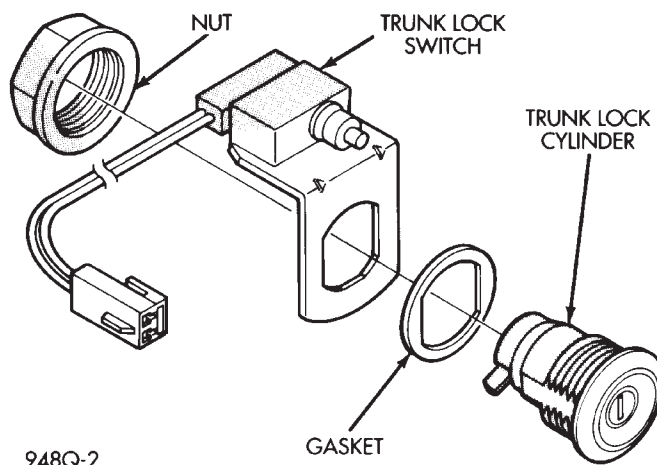
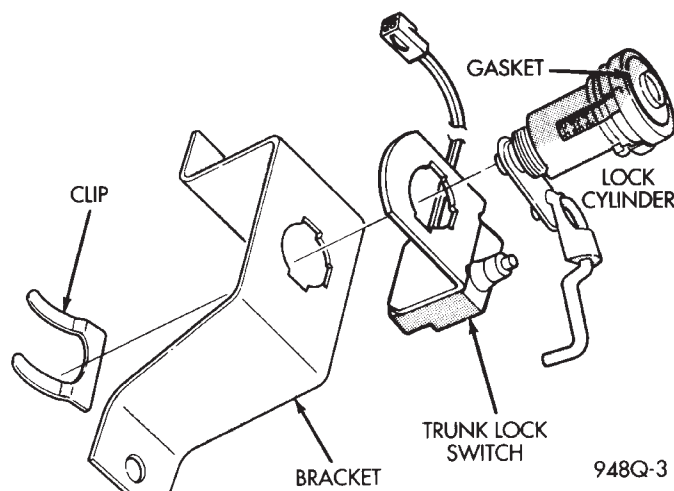

Fig. 3 Trunk Lock Switch
Fig. 4 Trunk Lock Switch-New Yorker/LHS
- (1) Refer to Group 23, Body for trunk lock cylinder removal.
- (2) Remove trunk lock switch from cylinder or bracket and disconnect connector (Fig. 3) and (Fig. 4).